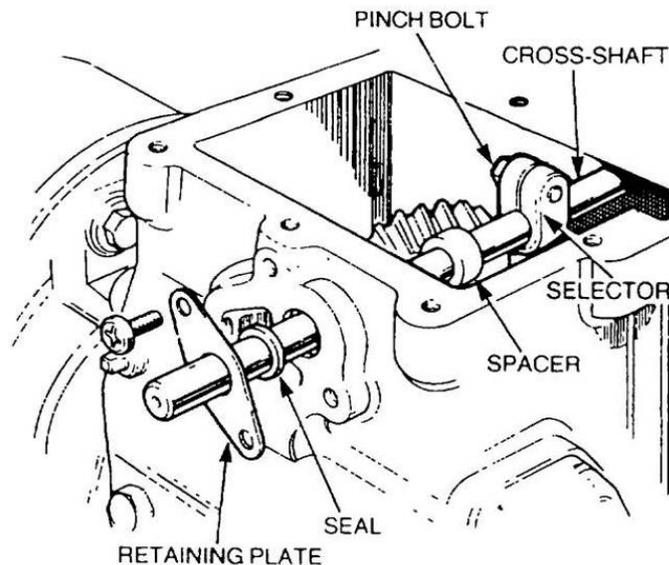

Figure 76 Removal of the Transfer Selector Cross-shaft
- aa. Slacken the pinch bolt securing the selector to the cross-shaft (Figure 76) and remove the two screws securing the retaining plates fitted to both ends of the cross-shaft. Remove the two plates and withdraw the shaft selector and spacer. Discard the two seals.
- k.** Position the cross-shaft selector in the transfer case and insert the cross-shaft and spacer, engaging the selector (Figure 76). Fit a new seal on both ends of the shaft and secure them with the retaining plates. Tighten the retaining screws securely.